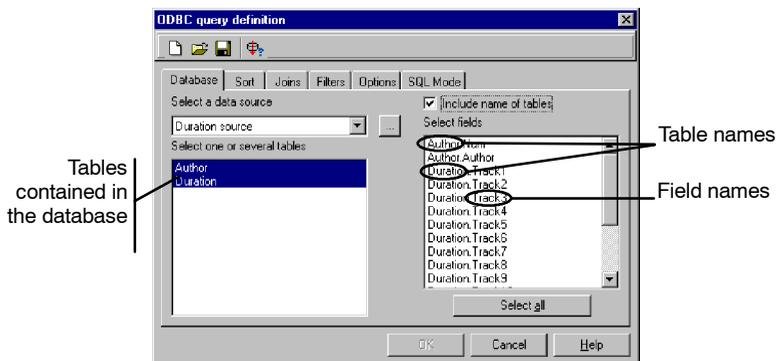

Figure 26 Selecting the data source **Duration source**
- 4 Once the new source is installed, select it in the **Select a data source** list in the **ODBC query definition** dialog box (see **Figure 26** below).